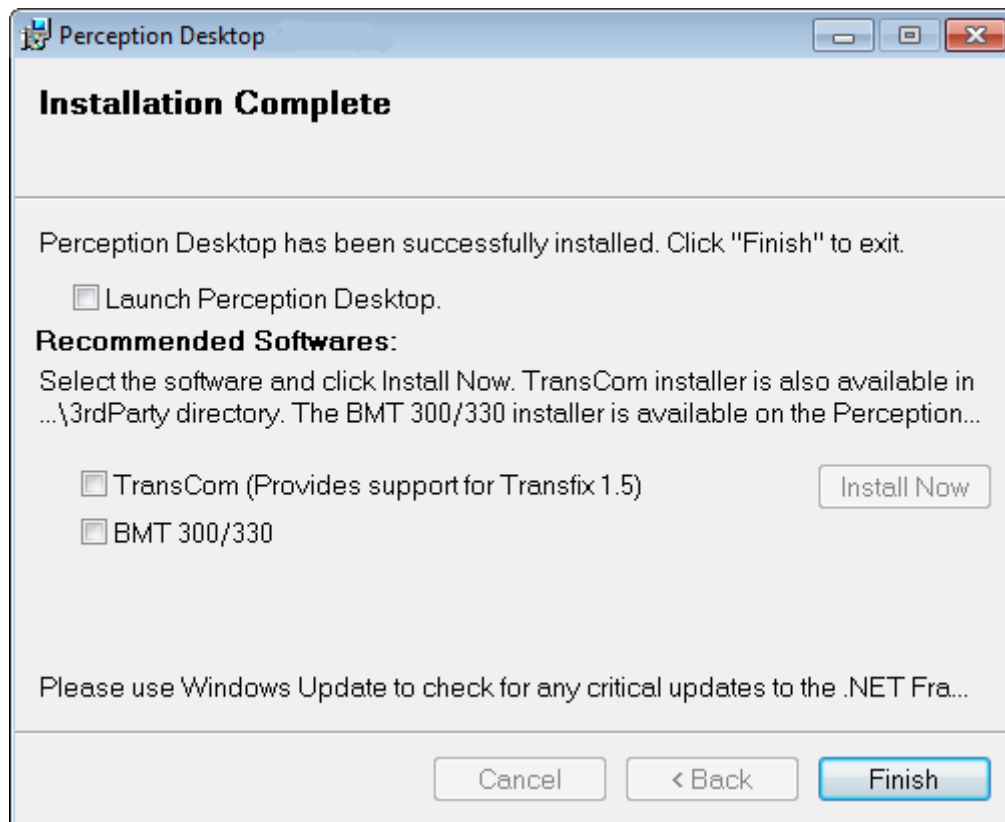

Figure 2-6: Installation Complete
2.2.6 The Setup Wizard completes the installation and presents the following message as shown in Figure 2-6. Click Finish to exit.